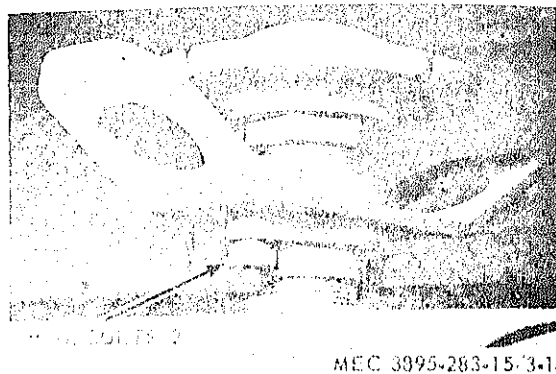

Figure 3-14. Muffler and Exhaust Nipple Removal.
- (1) Remove muffler, close nipple, lifting hook and adapter as illustrated in figure 3-14.
(a) Remove muffler and exhaust flange as illustrated in figure 3-14 and paragraph 3-35.